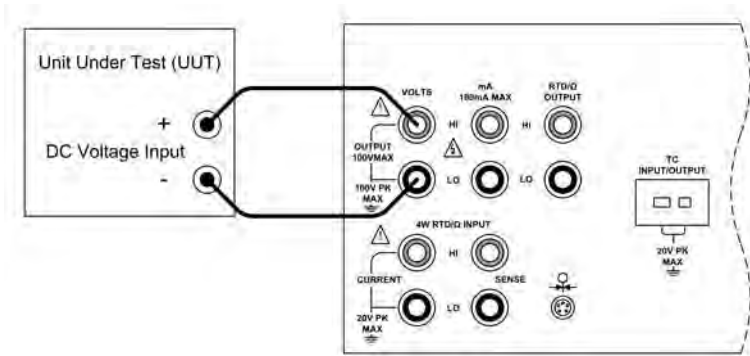

Figure 10 - DC Voltage Output Connection
- c) Connect the unit under test to the voltage output terminals of the CL3001 as shown in figure 10.